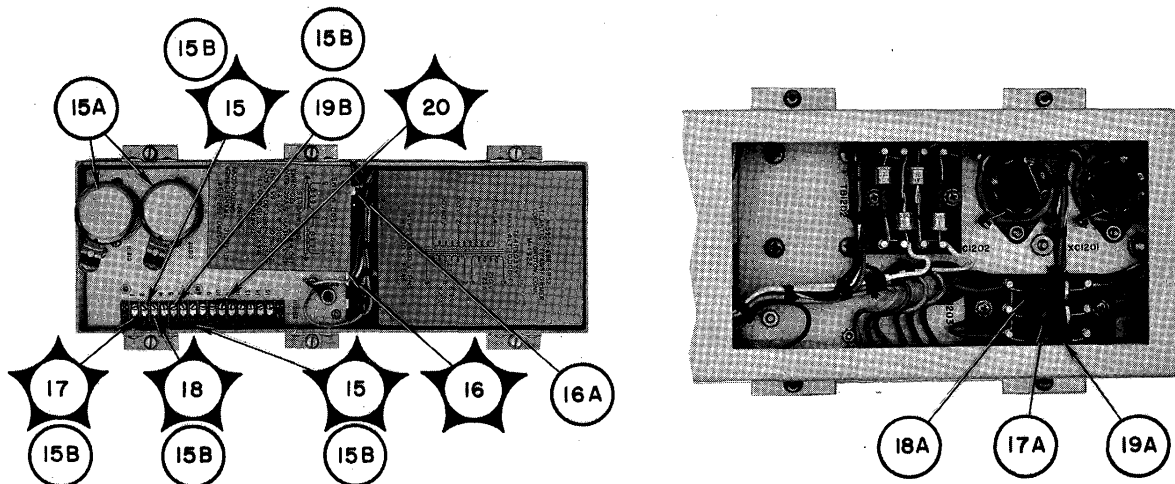

Figure 5-7. Demodulator Power Supply, Location of Test Points
e. DEMODULATOR POWER SUPPLY TROUBLE-SHOOTING CHART.— Table 5-6 is the trouble-shooting chart for the demodulator power supply. Perform the steps in the order given and compare the results with those listed in the NORMAL INDICATION column. If an indication is abnormal, follow the instructions given in the NEXT STEP column. Figure 5-7 shows the location of test points.